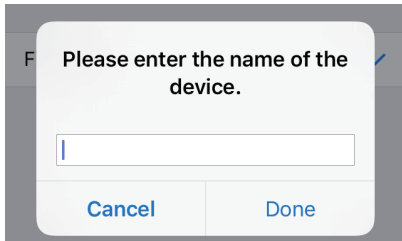

Fig. 4 Enter a name for the Fireplace
5. Enter a name for the fireplace (Fig. 4)